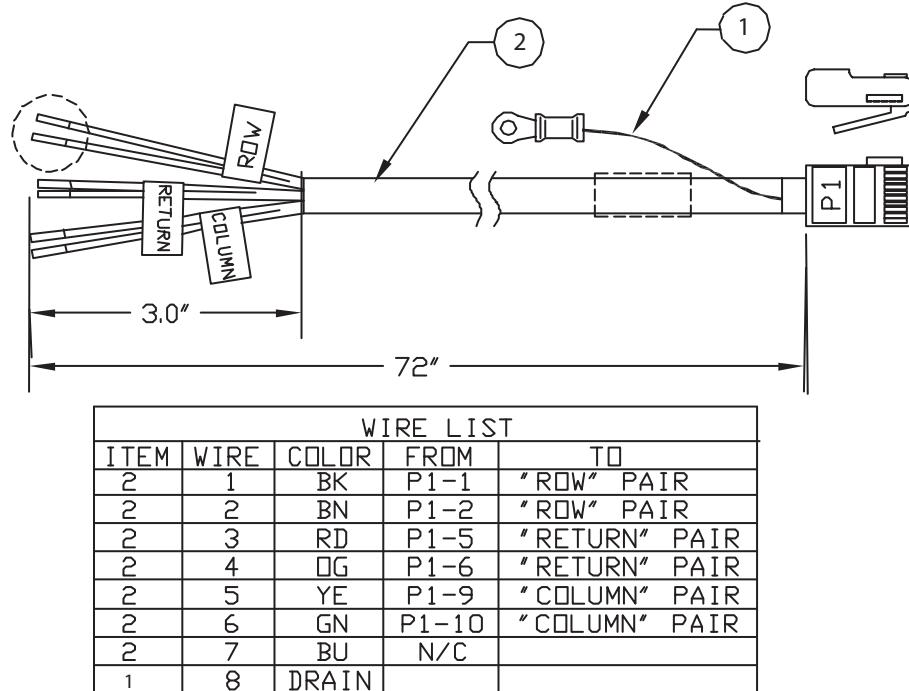

Figure 5-47. P0972UD, Power Distribution Unit to TSC Cable
Cell bus power is used with 1x8 or 2x8 nests. Cable P0972UD connects power from the Power Distribution Unit (PDU - P0904AU) to the TSC (see Figure 5-47). The following procedures describe how to install a single TSC or two TSCs from a single PDU.
1. Twist together the wires of cable P0972UD (see Figure 5-47) as follows:
- Twist together the wires of cable P0972UD (see Figure 5-47) as follows: